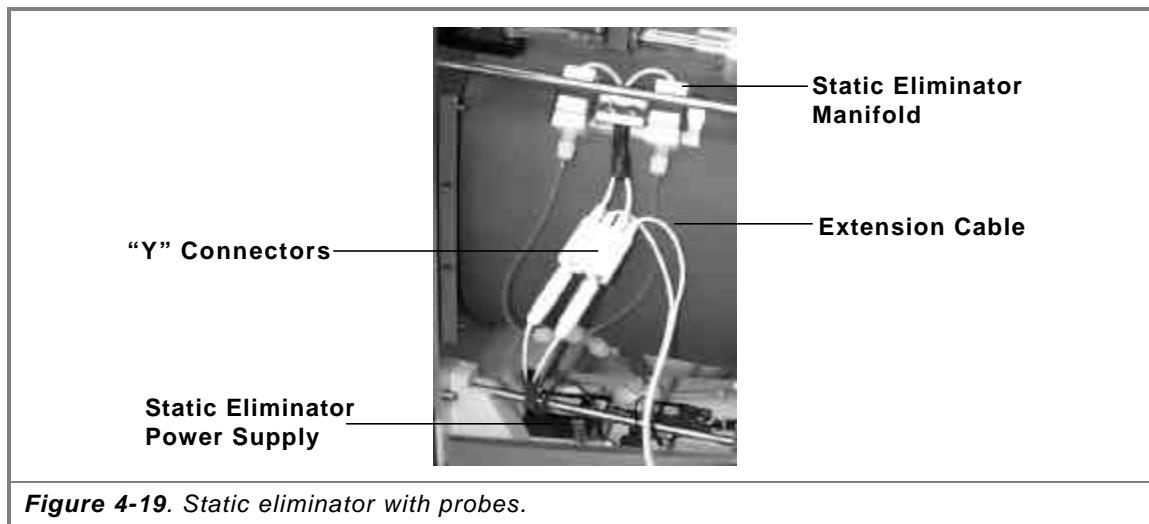

Figure 4-19. Static eliminator with probes.
4. Remove the heat shield to access the static eliminator electrical probes (Figure 4-19). Disconnect probes and insert into either "Y" connector of the extension cable.
5. Connect the extension cable probes into the static eliminator manifold connectors (Figure 4-19).